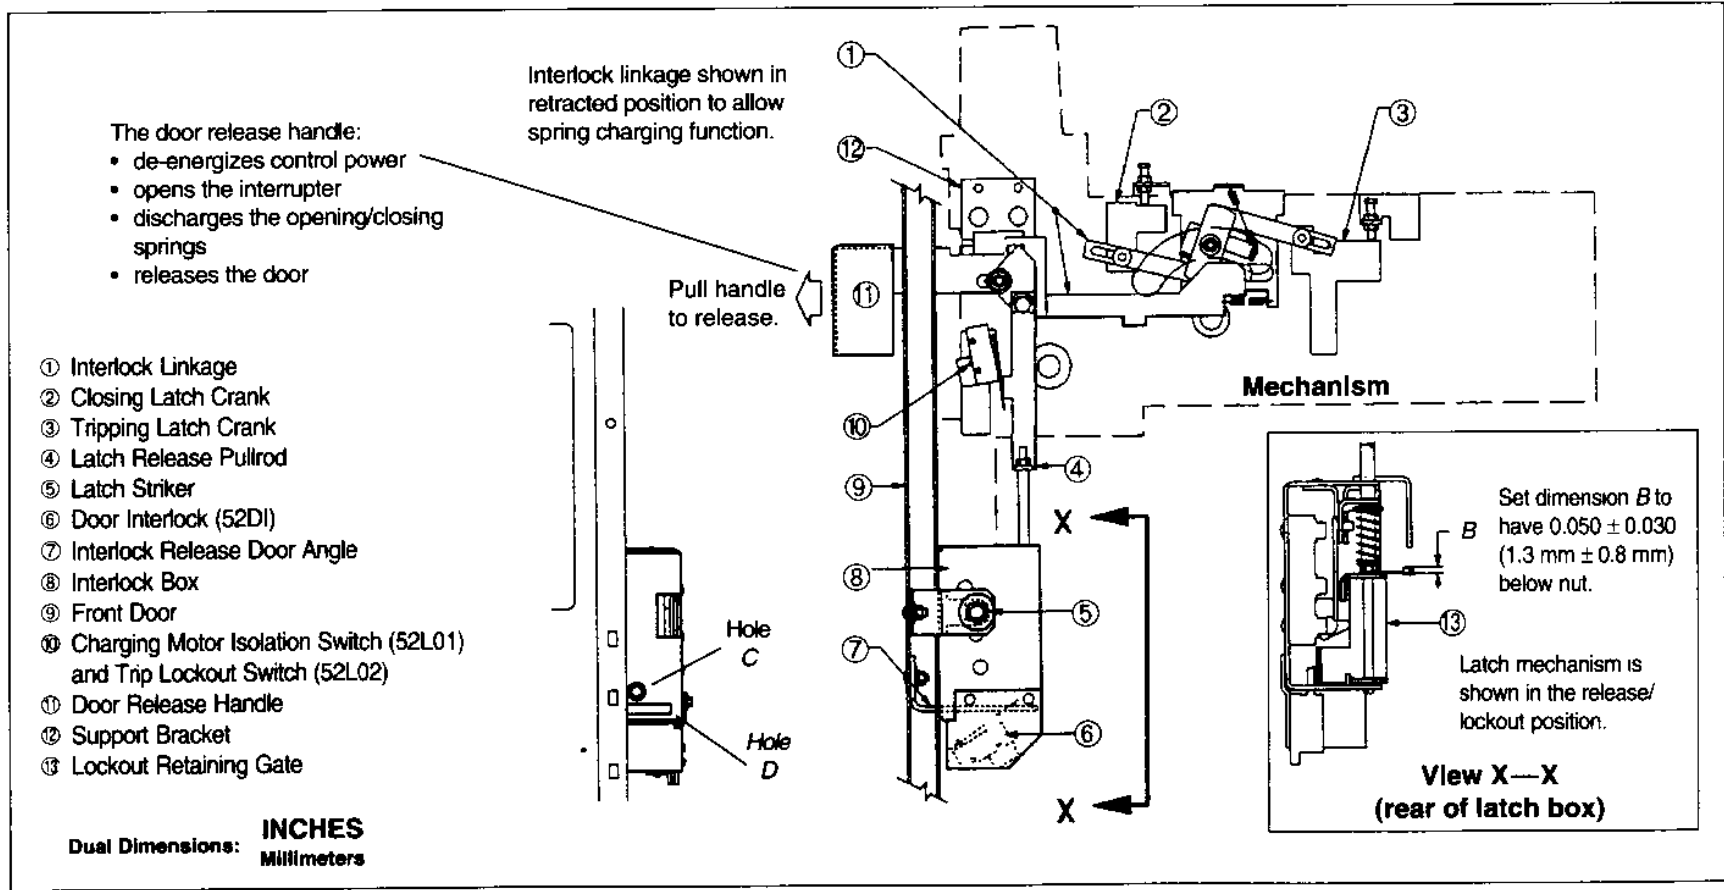

Figure 9: Interlock assembly
The circuit interrupter can be padlocked in the open position (see figure 9, page 14) to prevent its operation and to allow the enclosure door to be opened. To padlock the circuit interrupter in the open position and allow the door to be opened, follow these steps:
3. In this position, check to ensure that spacing *B* (figure 9) is between the top surface of the lockout retaining gate, and the pullrod end is as shown (figure 9). Adjust *B* to 0.050" (1.3 mm); if necessary, use washers at the connection between the rod from the lock box and the bracket above it.
- Position and tighten the interlock release door angle so the angle is centered both vertically and horizontally in hole D (figure 9).
- The charging motor isolation switch and trip lockout switch (figure 9) must operate when:
2. To operate the circuit interrupter manually, insert a six-inch thin blade screwdriver into hole C (figure 9, page 14). This action resets the interlock mechanically, not electrically. It allows manual operation of the circuit interrupter using the manual charging handle and the *Pull-Close/ Push-Trip* lever to close and open the circuit interrupter. The interlock release door angle on the open door does not engage the latch box switch, so the control circuits remain de-energized (i.e., the device cannot be opened or closed electrically).